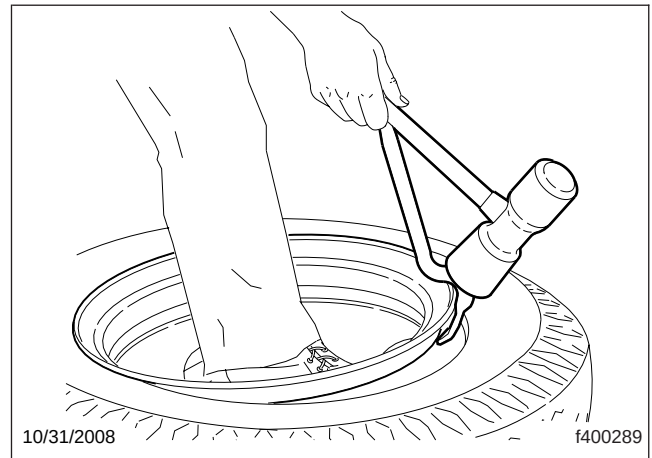

Fig. 1, Loosening the Beads
- 2.3 Holding the tool upright, hammer on the neck to free the tire bead from the wheel. See Fig. 1.